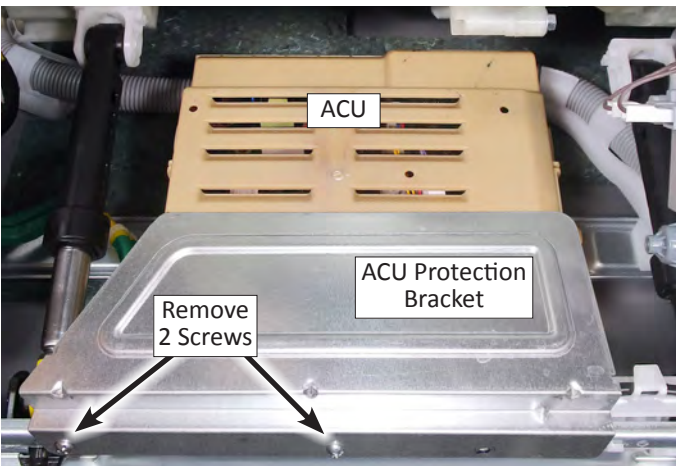

Figure 1
5. Remove the two (2) screws securing the ACU protection bracket (see Figure 1). Remove bracket and set aside for reassembly.